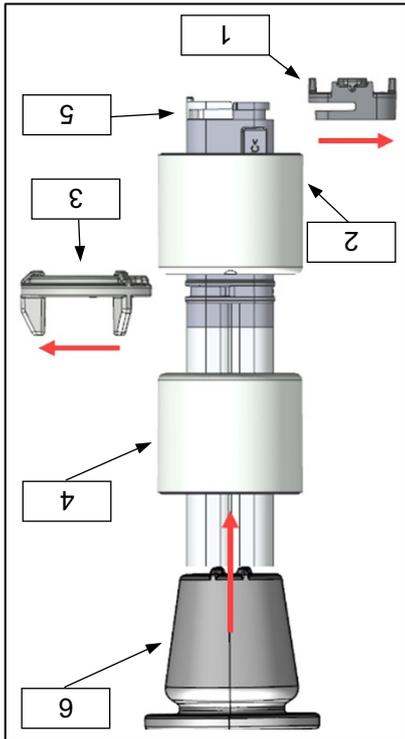

Figure 9
- ▶ Pull out the filter sieve (Figure 9, item 1) to the side.